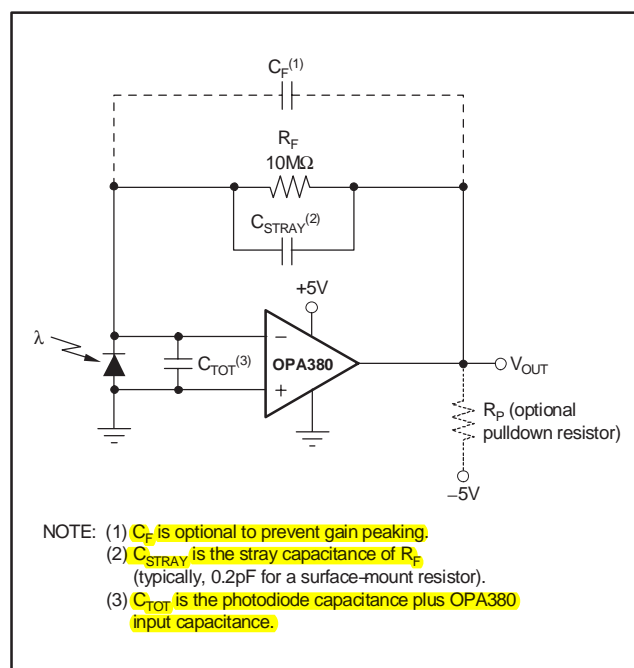

Figure 5. Transimpedance Amplifier
(1) 300-hour life test at 150°C demonstrated randomly distributed variation approximately equal to measurement repeatability of $1\mu V$.
(2) Tested with output connected only to R_P , a pulldown resistor connected between V_{OUT} and $-5V$, as shown in Figure 5. See also applications section, *Achieving Output Swing to Ground*.
The key elements to a transimpedance design are shown in Figure 5: